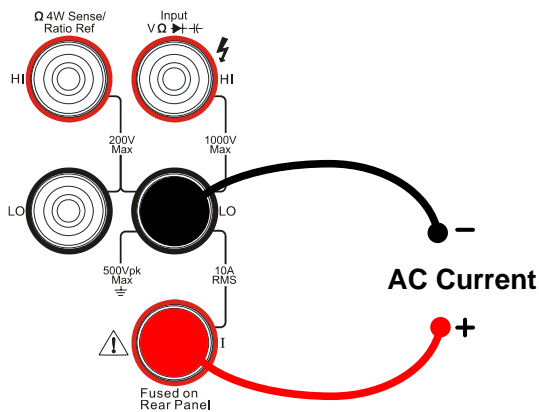

Figure 1-17
1. Connect test leads as Figure 1-17 shown. Red test lead connects the HI Terminal, Black test lead connects the LO Terminal.